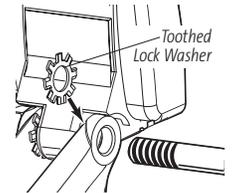

Figure 19
**NOTE:** The toothed lock washers must be positioned between the transducer arms and the pivot knuckle regardless of mounting bracket type (Figure 19).